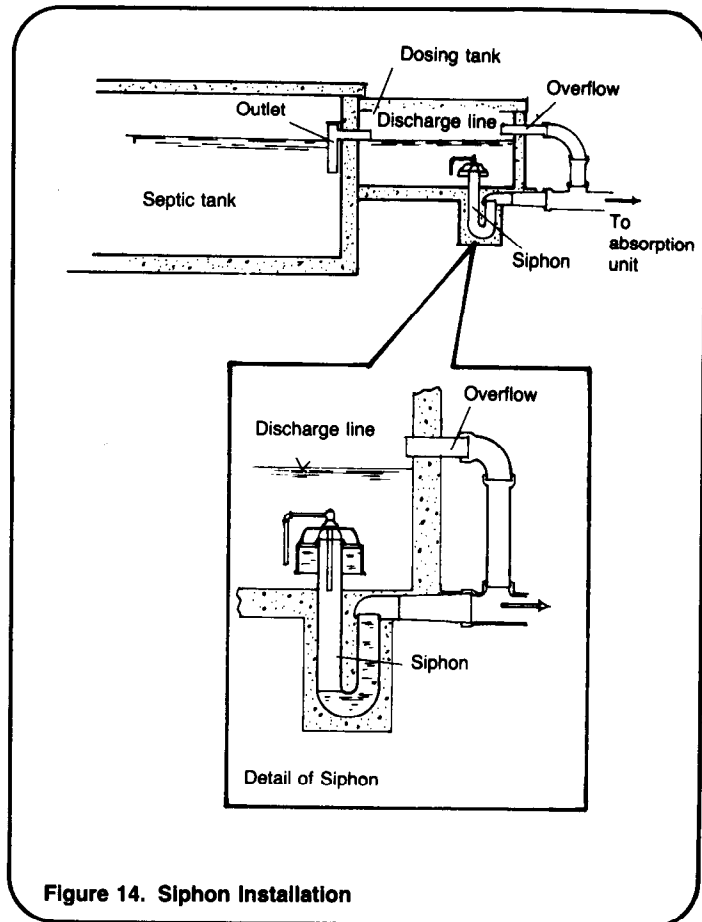

Figure 14. Siphon Installation
7. Install the Dosing Siphon. The dosing siphon, shown in Figure 14, should be placed exactly in accordance with the manufacturer's directions. It operates on the compression of air volume under the bell.
In a sand filter, effluent flows through the distribution pipes, filters down through the sand to the underdrain, and flows safely out the discharge pipe to a dry ditch or waterway. The point of discharge should be downstream from drinking water supplies. To fill the pipes fully two or three times per day, a dosing siphon, Figure 14, or pump is needed feeding from a collecting chamber after the septic tank. Filling the pipes makes full use of the filter.